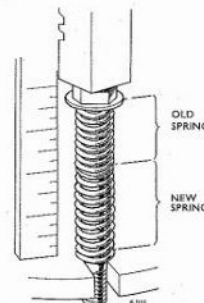

Fig. B.17. Checking valve spring by comparison method whilst under load
- Position the used and new valve springs end to end on a long bolt and compress them in a press as shown in Fig. B.17. Any loss will then be apparent as the weaker spring will close up first.